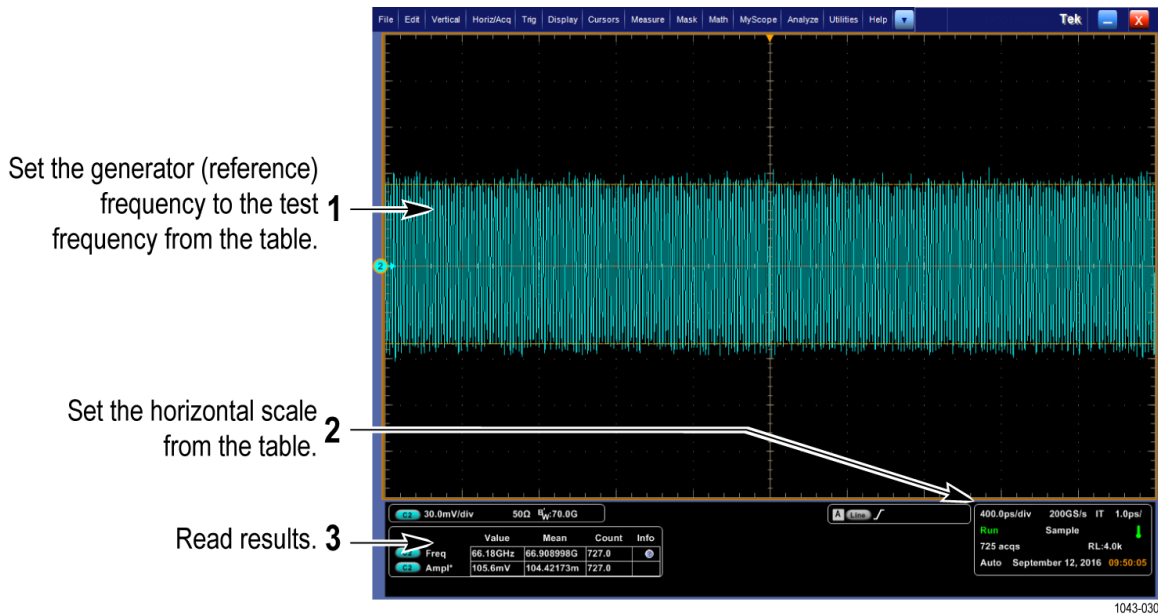

Figure 19: Measurement of analog bandwidth
- Read the results at the Ch 2 Amplitude mean readout, which will automatically measure the amplitude of the test signal. (See Figure 19: Measurement of analog bandwidth on page 119.)